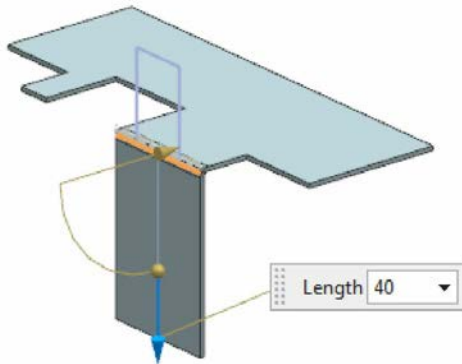

Figure 14-106 Preview of the first flange
3. Specify **40** mm as the distance of the flange in the **Length** edit box. Figure 14-106 shows the preview of the flange.